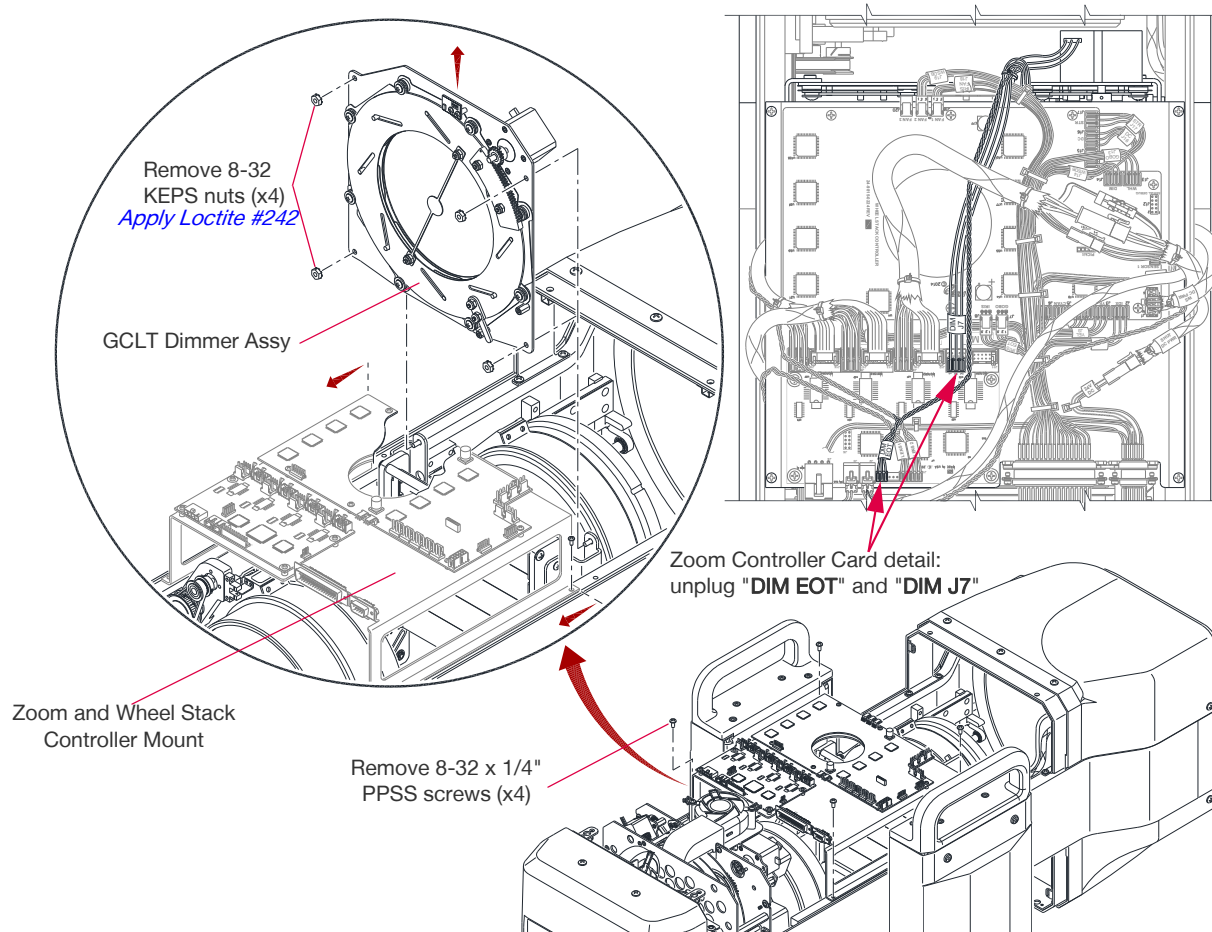

Figure 3-28: Removing the GCLT Dimmer Assembly Detail
- Step 3. Disconnect Dimmer Motor cable (labeled **DIM**) and Dimmer EOT cable (labeled **DIM EOT**) (**Figure 3-28**)
- Step 4. Remove four 8-32 x 1/4" PPSS screws from the Zoom and Wheel Stack Driver Mount and gently slide that assembly towards the lamp end of GCLT just enough to clear the mount from the Dimmer Assembly motor. (**Figure 3-28**). You do not need to disconnect all of the cabling, just the motor cable in **Step 3**.